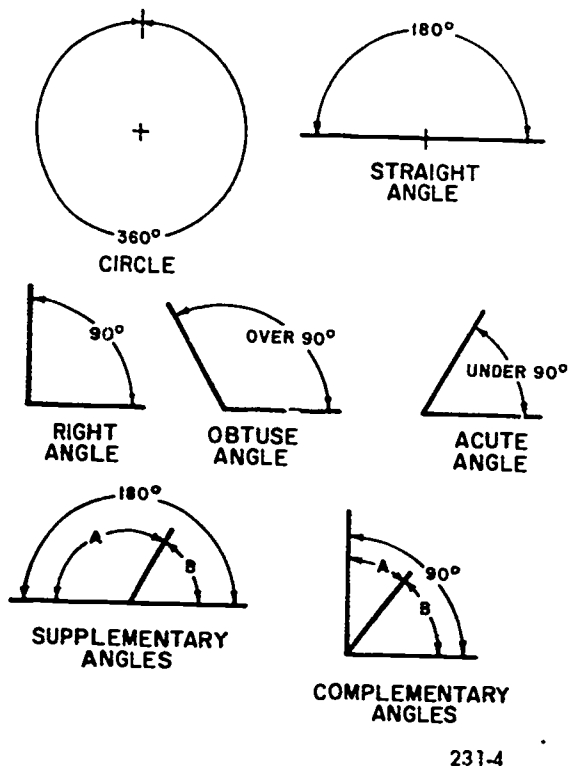

Figure 4-4. Angles.
**Adjacent angles.** Angles which have a common vertex and side are adjacent angles. They can be supplementary or complementary angles, as shown in figure 4-4.
**Exercises (028):**